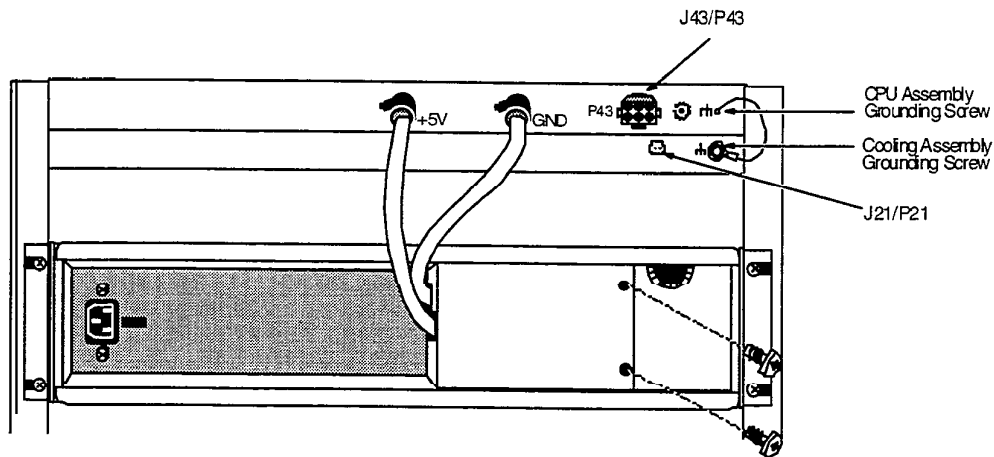

Figure 1 **VoiceMemo** System Ground location
2. For non-central office applications, connect a single strand of 12 gauge wire from the X₀ ground point to the cooling assembly grounding screw. (Note: The connector must be crimped, not soldered.) See figure 1 for details.